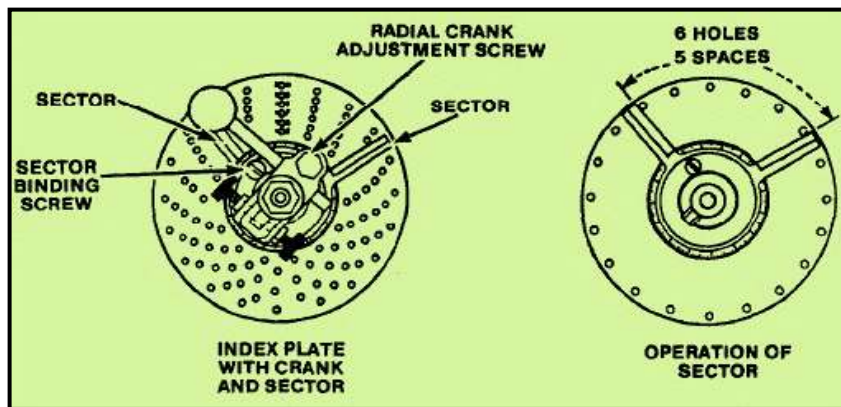

Figure 8-21. Index plate and sector.
**Index Plate:** The indexing plate is a **round plate** with a series of six or more circles of equally spaced holes; the index pin on the crank can be inserted in any hole of any circle. With the interchangeable plates regularly furnished with most index heads, the spacing necessary for most gears, bolt heads, milling cutters, splines, and so forth can be obtained. The following sets of plates are standard equipment. (Figure 8-21).
**Index Plate Sector:** Indicates the next hole in which the pin is to be inserted and makes it unnecessary to count holes when moving the index crank after each cut. It consists of two radial, beveled arms which can be set at any angle to each other and then moved together around the center of the index plate. (Figure 8-21).